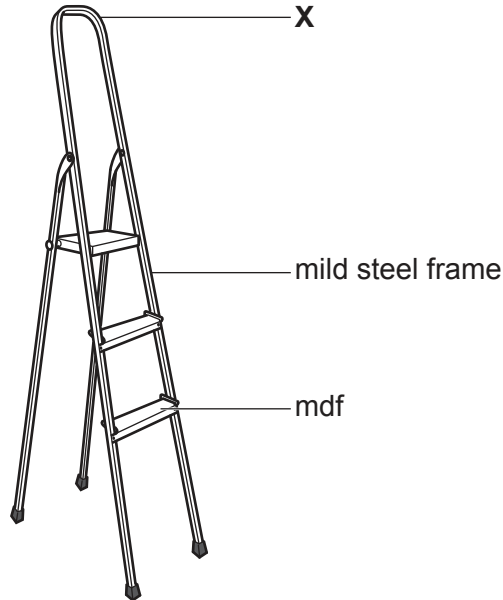

Fig. 4.1
- 4 Fig. 4.1 gives details of a set of steps to be used around the home.